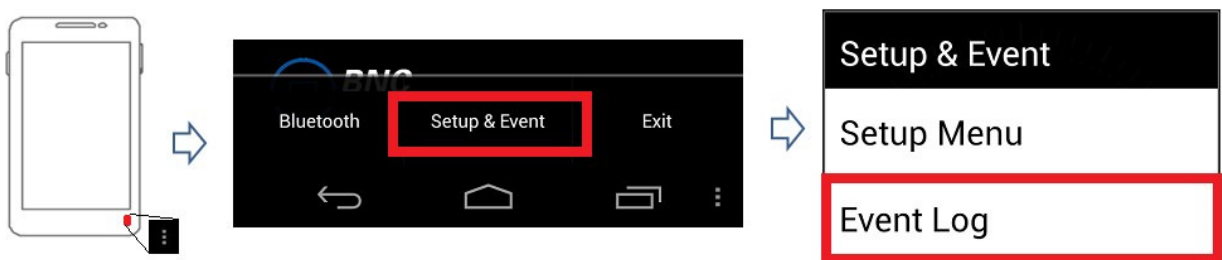

Figure 4.18. Navigating to the Event Log menu
1. With PeakAbout in Setup mode, touch the menu button (Figure 4.18)